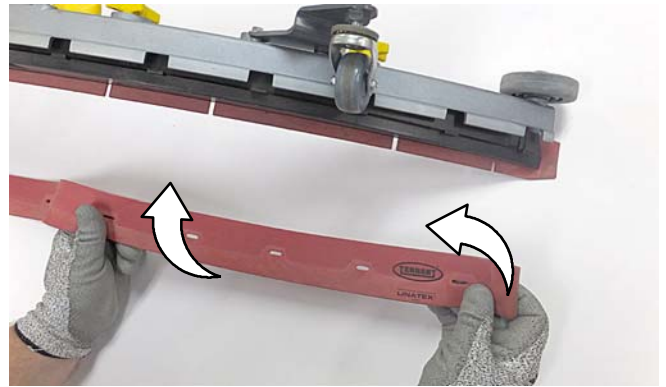

FIG. 135
4. Rotate the rear blade to a new wiping edge and reinstall blade (Figure 135). Make sure to align the slots in the blade with retainer tabs.